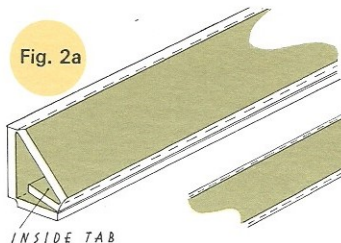
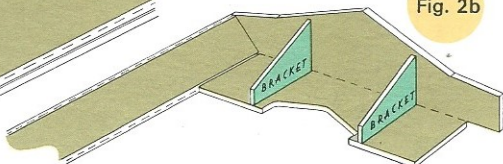
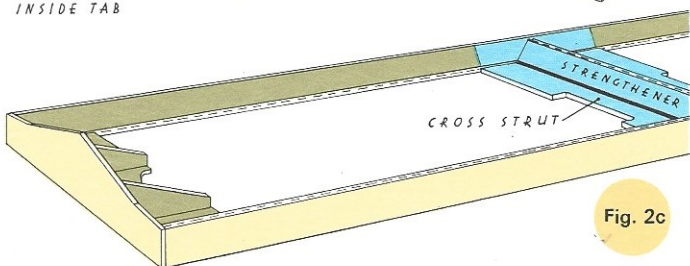

Fig. 2a
Fig. 2b
Fig. 2c
2. From SHEET 2 remove the two AWNING VALANCES noting that each consists of four joined parts which are bent and glued to produce a triangular box form, noting the position of the INSIDE TAB (Fig. 2a). Take the two END VALANCES, bend each at its red arrow line and set at right angles with the green BRACKETS positioned and glued so that they do not project beyond the upper edges of the valance. (Fig. 2b). Make up the complete VALANCE on a flat surface, gluing one corner at a time, checking squareness and allowing ample time for drying (Fig. 2c). Take the CROSS STRUT and its STRENGTHENER, bend the STRENGTHENER along its scored line and glue it along the STRUT where shown. Insert the completed CROSS STRUT, positioned where indicated by the blue printed areas. Take the AWNING ROOF, glaze and bend to the shape of the end valances and when the completed valance is quite dry, brush glue on to the edges of one END VALANCE only and set the AWNING ROOF in position. When ready, glue the opposite end leaving the long edges to be glued from the under side. Prepare the RIDGE COVERS by cutting the short lines marked Z at each end. Turn the card against the light to check that these lines are running accurately down the middle of the tiles before scoring the lines with a blunt knife. Turn the card over again, bend the tiles double, crease them well, cut away the waste and separate. Glue them in place.